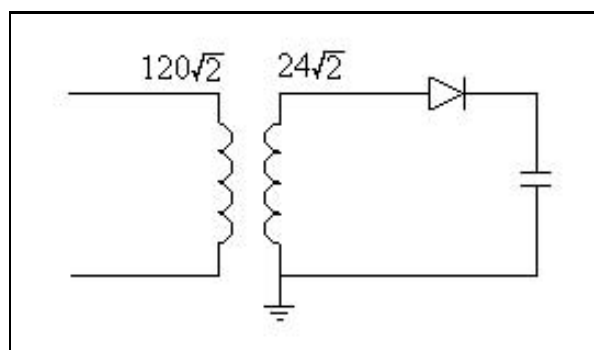

Figure 1.3: DC Power Supply without Load
To understand how the filter works, consider the circuit shown in Fig. 1.3. As the signal
3. Sketch the voltage signals on either side of the transformer, and the signal across the capacitor versus time for the circuit in Fig. 1.3. Take the signal frequency into the transformer as 60Hz.